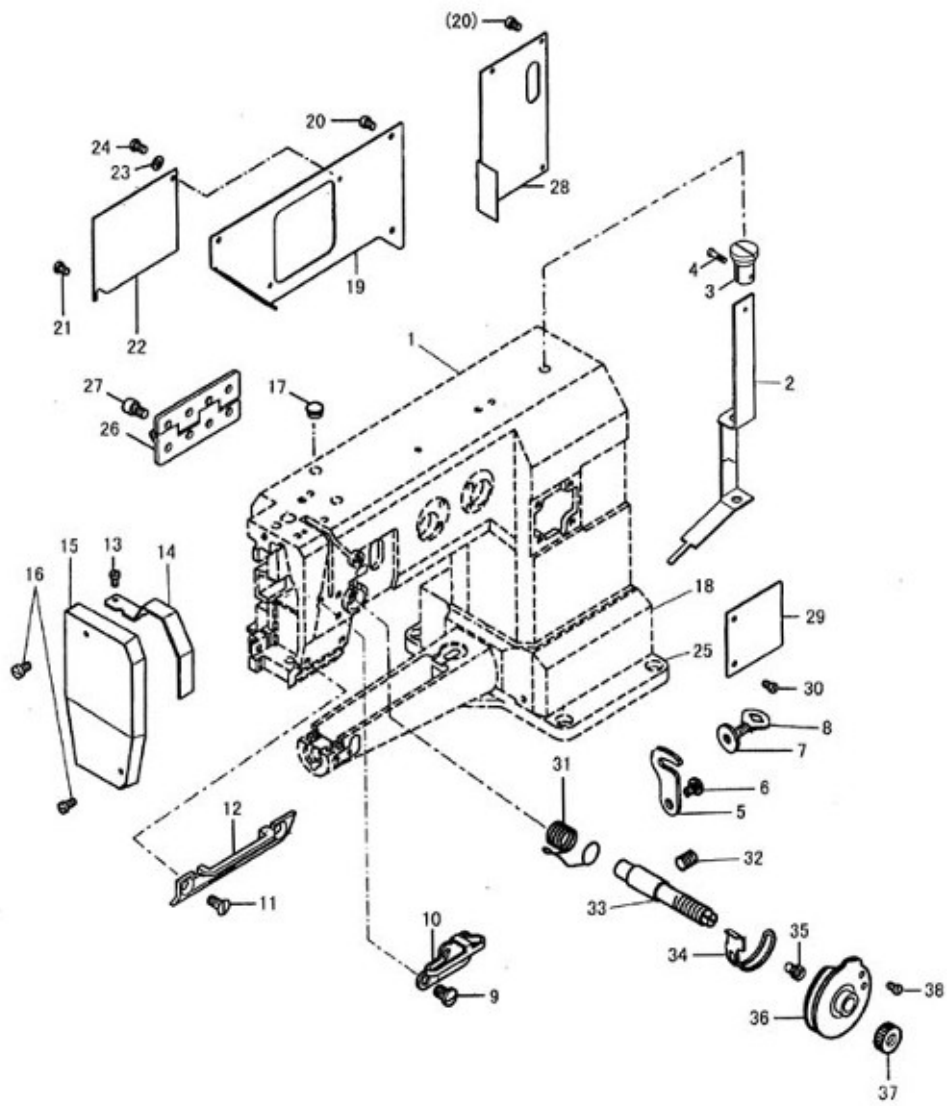

**Fig.30**
- ① Screw on knife 1(screws 2)finger-tight.
- ② Set the needle bar at b. d. c. and operate solenoid core 3.
- ③ Turn the balance wheel(sewing direction)until the short point of thread catcher 4 is aligned with the knife edge.
- ④ Set the lateral position of knife 1 according to Requirement(see arrow).
- ⑤ Tighten screws 2.
- ⑥ Turn the balance wheel to check whether the back of the thread catcher is not twisted in relation to the knife edge.
- ⑦ If necessary-adjust thread catcher 4. see Chapter (7) Lateral position of the thread catcher.
**(10) Cutting test (Fig.30)**